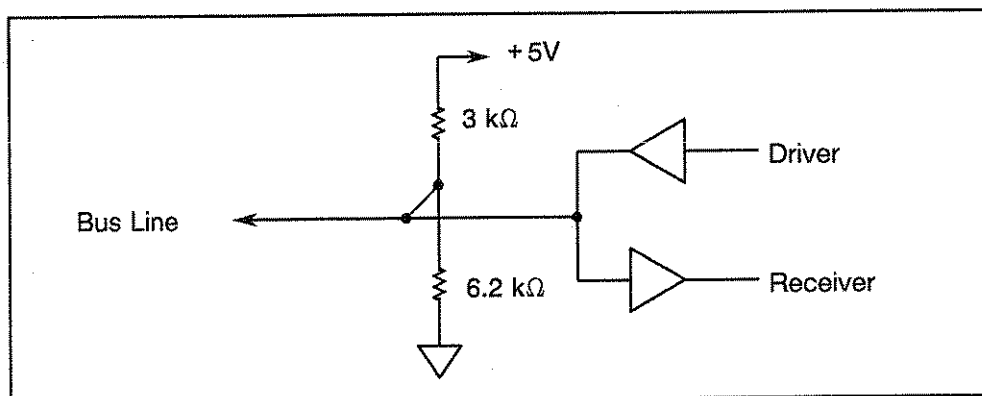

Figure 6-2 Signal Line Terminals
- Signal line terminal : The 16 bus lines are terminated as shown in Figure 6-2.